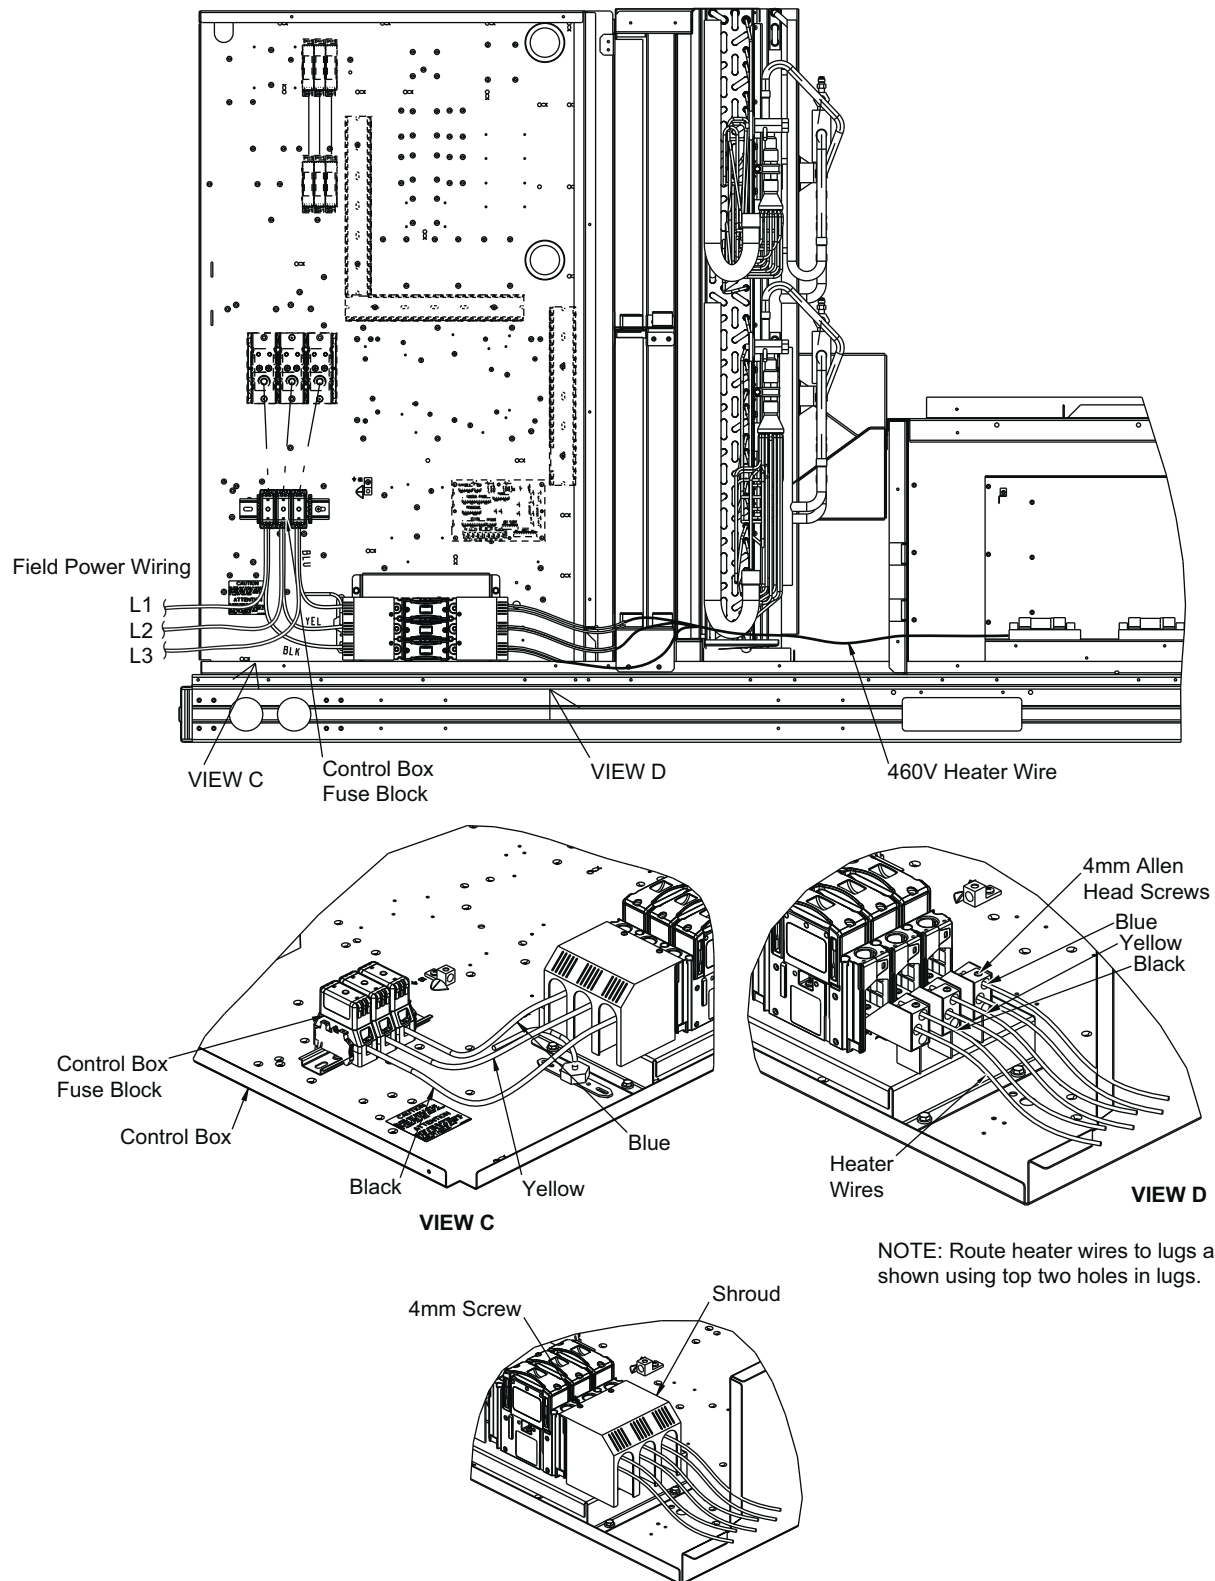

Fig. 49 — 460V Single Point Power Assembly Location (High SCCR)
1. Remove shroud screws and shroud. Install fuse block assembly in location shown in Fig. 49.